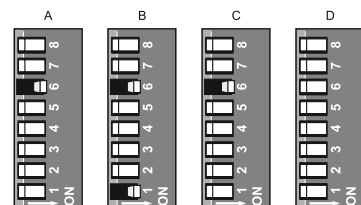

Fig. 4.1.3
2. Place dip-switch **6** and then dip-switch **1** in their **ON** positions, as shown in Fig. 4.1.3.